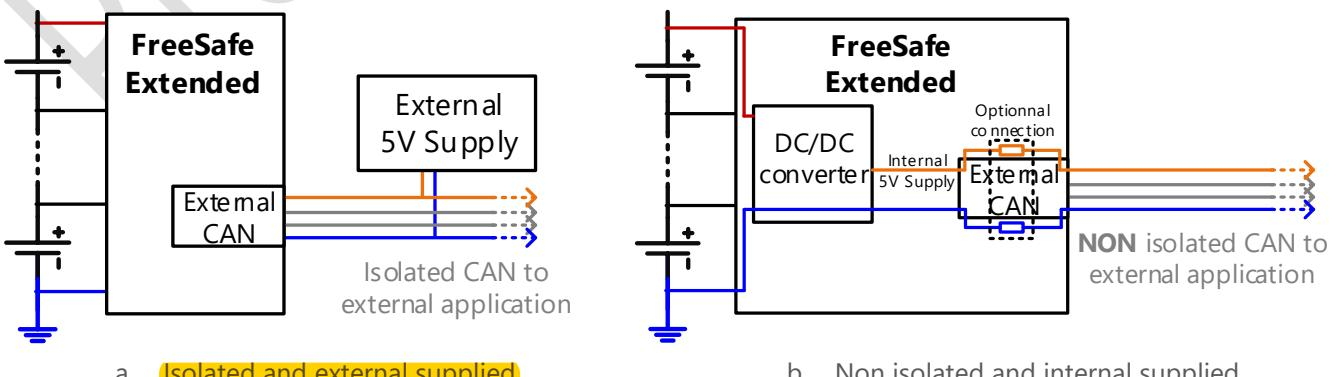

Figure 19: Connection principle of the external CAN bus for the FS-XT solution
- If the full insulation of the external CAN is required, it needs to be supplied by an external isolated supply. The supply must be managed to respect the CAN standard: $5V \pm 5\%$. See Figure 19.